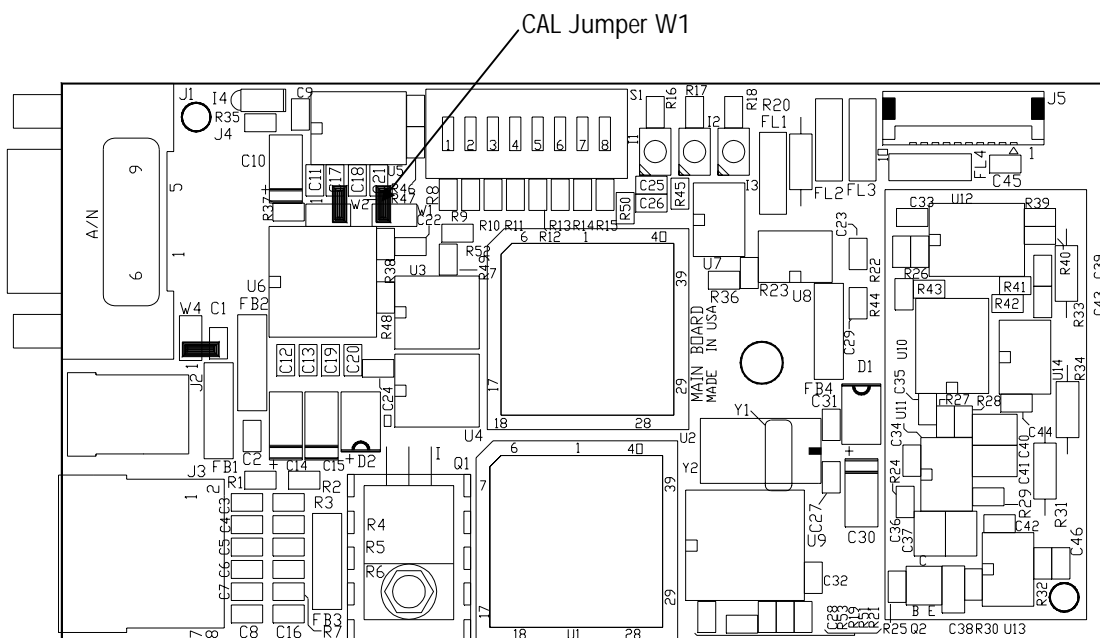

Figure 2-f: CAL Jumper on Main PCB
3. Remove the calibration jumper (W1 in Figure 2-f).